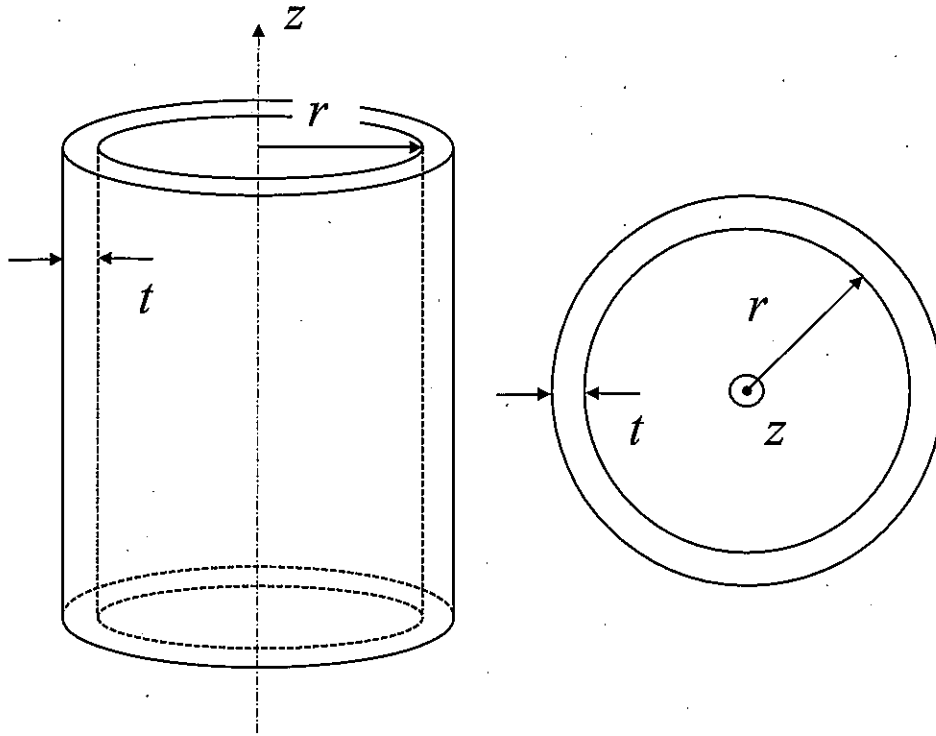
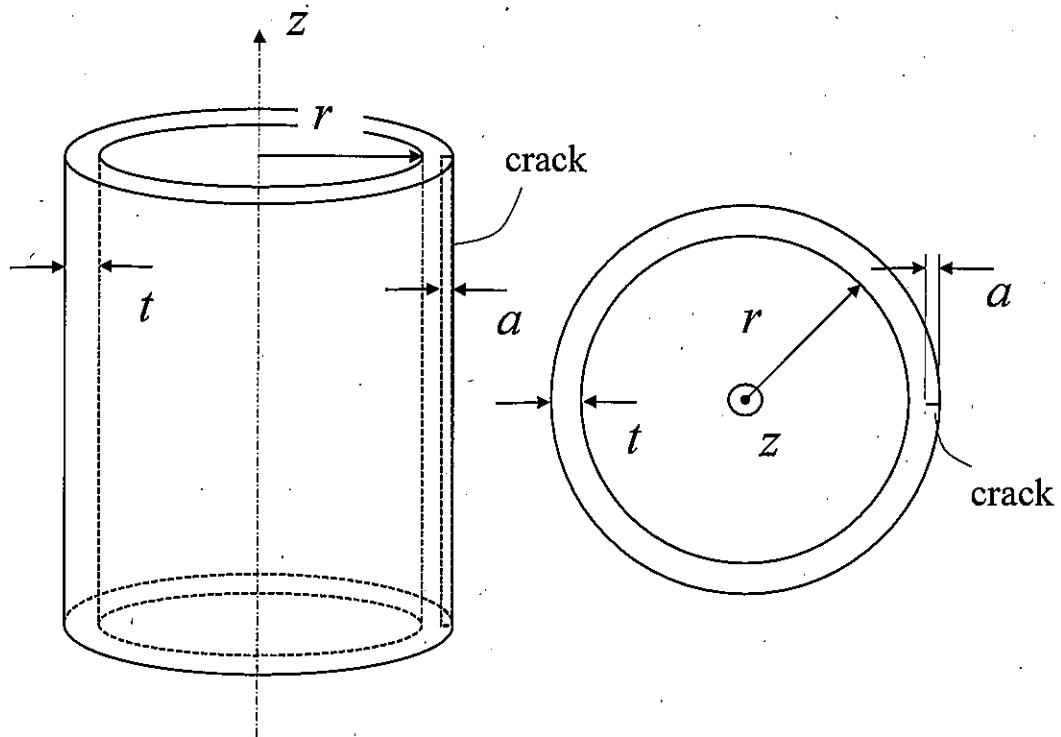

Figure 1-2
Figure 1-3
- II. Consider a thin-walled cylinder vessel with an inner radius  $r$  and wall thickness  $t$  ( $t \ll r$ ), as shown in Figure 1-2. The thin-walled cylinder is closed at both ends and is subjected to the inner pressure  $P$ . The material is assumed as a perfect elastic-plastic solid with a yield stress  $\sigma_f$ .
Next, consider the case that the thin-walled cylinder vessel in Figure 1-2 involves a long surface crack of depth  $a (\ll t)$  on the outer surface, as shown in Figure 1-3. Here, the stress intensity factor  $K_I$  (mode I) of the crack is expressed by the equation below. Here,  $C$  is a constant. The critical stress intensity factor (fracture toughness) of the material is  $K_{IC}$ .